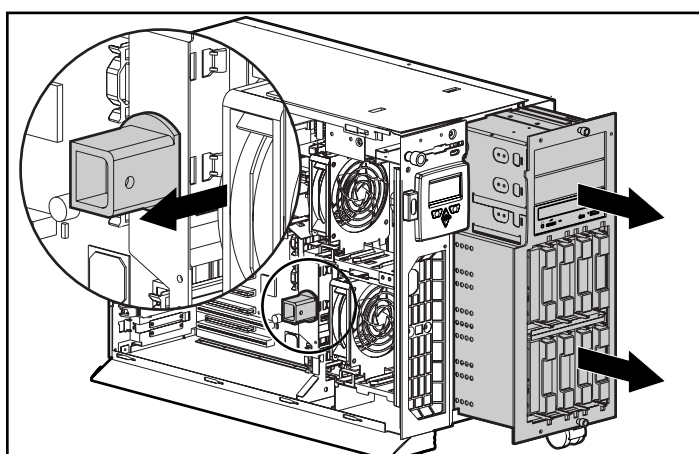

Figure 4-12. Pull the drive cage partially out
3. Pull out the latch at the back of the drive cage (shown in Figure 4-12) and pull out the drive cage 2 to 3 inches to allow better access to cables.